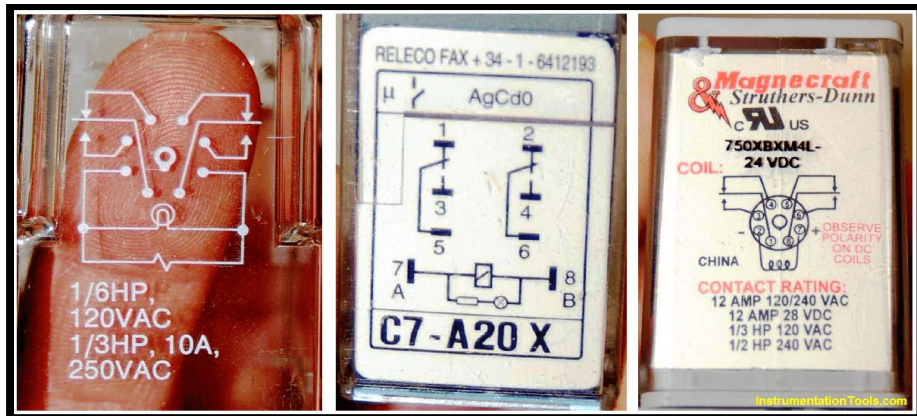

Figure 2.21: A diagrams of relay
1. Even between relays with the same function, the styles of these diagrams may be different. The Figure 2.21 shown as an example, these pictures were taken on three different brands of DPDT relays: